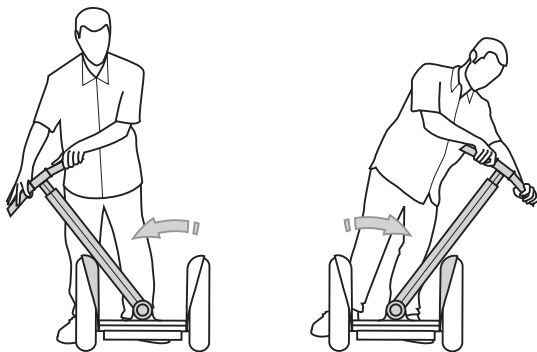

Figure 2. Releasing the LeanSteer Frame from the Pivot Base Assembly
3. Lean the LeanSteer Frame all the way to the left and right until the LeanSteer Frame is loose. You may hear and feel a click when the Wedge Clamp Assembly releases from the Pivot Base Assembly. See Figure 2.